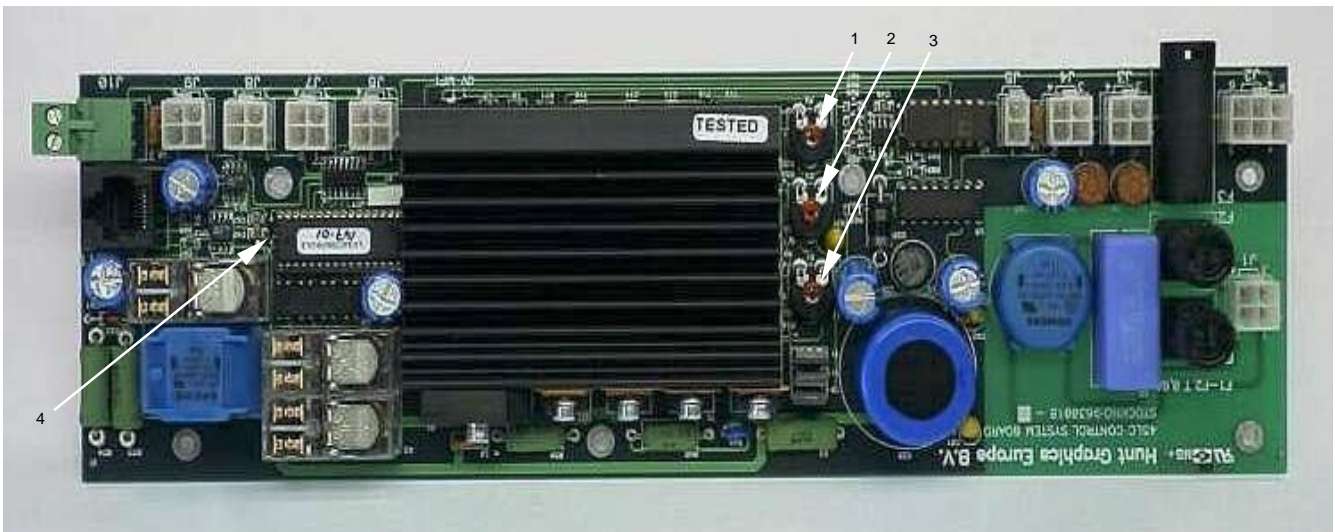

fig. 15
Never change the settings of the three potmeters, marked 1, 2 and 3 in figure 15.
1. See figure 15. Arrow #4 points to the processor (it usually has a sticker showing the software version). Carefully remove it using the IC extractor.